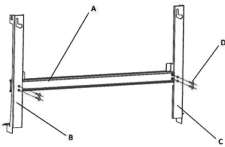

Fig.2
1. Take the brackets A, B and C and assemble them together with four screws (D), see Fig.2